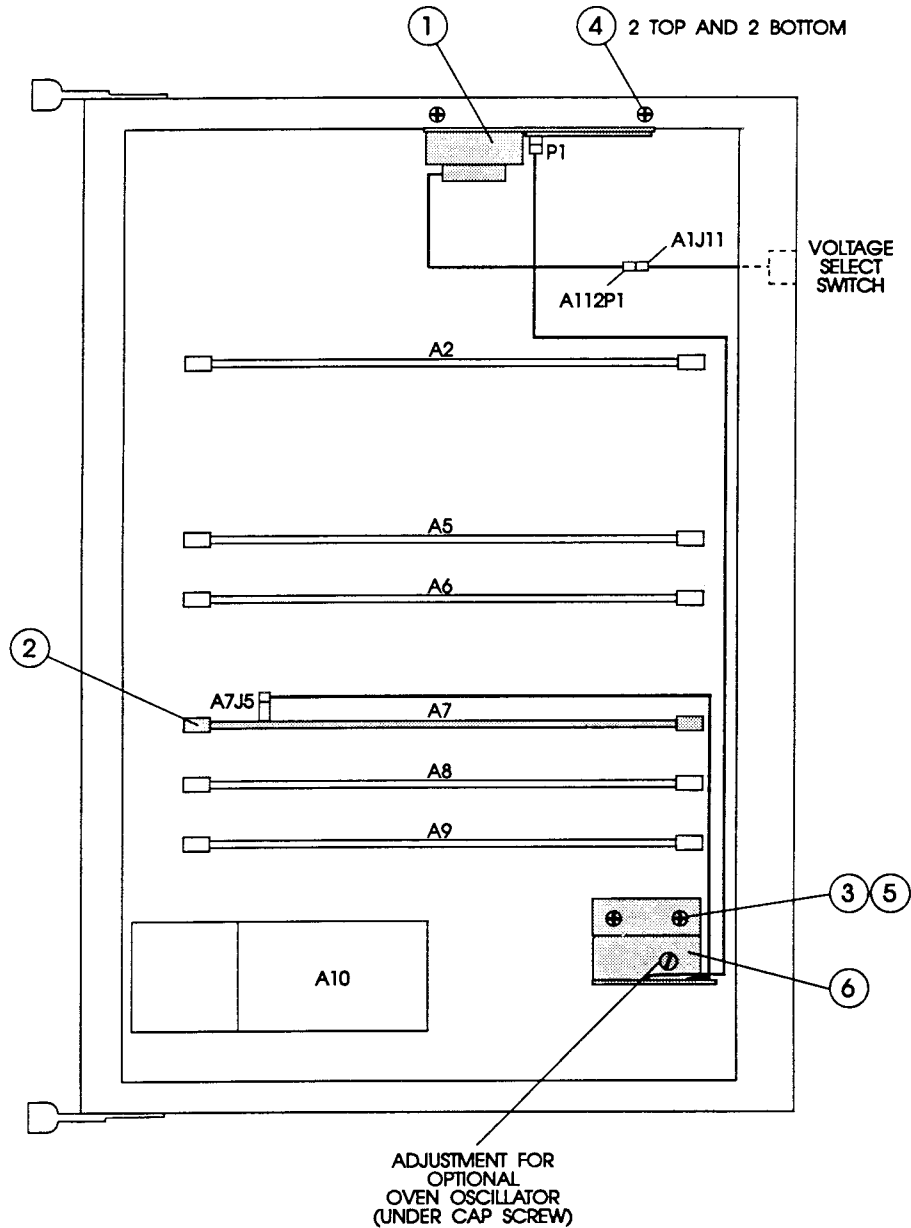

Figure 11-17. Oven Oscillator Connection Diagram.
6. While monitoring the 10 MHz timebase signal from the 585B/588B on the oscilloscope, adjust the frequency of the timebase by turning the adjustment located under the oven oscillator cap screw (refer to Figure 11-17) until the horizontal movement rate is ≤ 1 centimeter in 10 seconds. This sets the timebase to an accuracy of 1×10^{-9} (10 MHz ± 50 mHz).